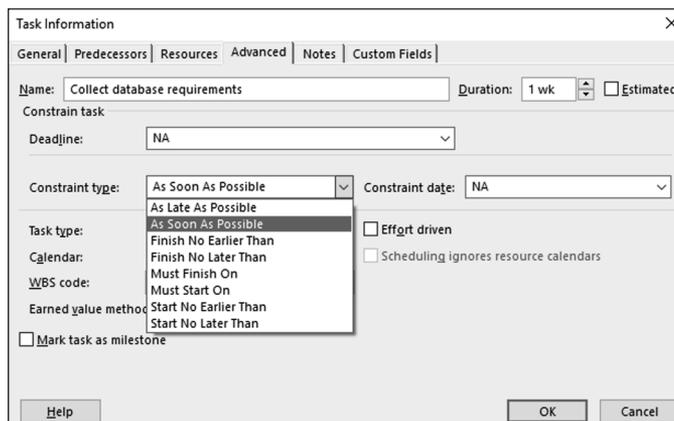

FIGURE 5-3:
- 3. Select a constraint from the Constraint Type list (see Figure 5-3).**